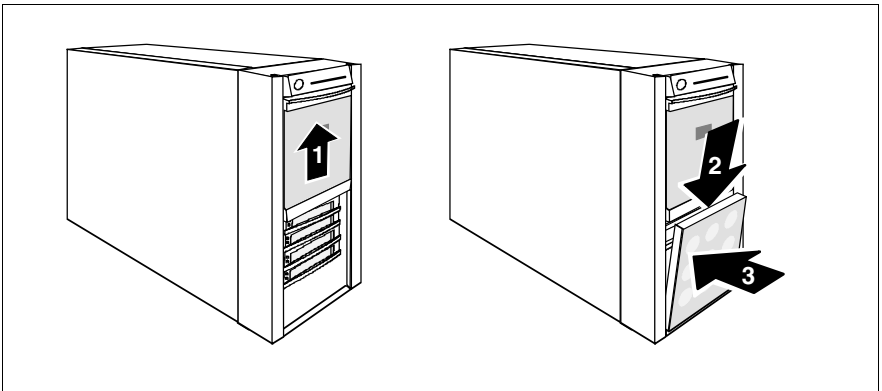

Figure 45: Attaching the hard disk cover
- ▶ Press the two hooks (1) on the right side in the recesses of the housing.
- ▶ Press the front cover onto the housing (2) until the three tabs on the left side engage (3).
- ▶ Attach the hard disk cover as shown in figure 45 on page 59.